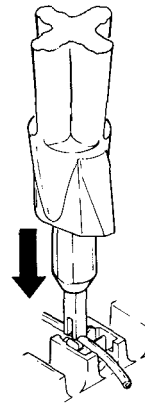

Fig. 128—Using 4051 Wire Insertion Tool.
- g. Insert conductors in contacts of body/top using 4051 Wire Insertion Tool. See Figure 128.